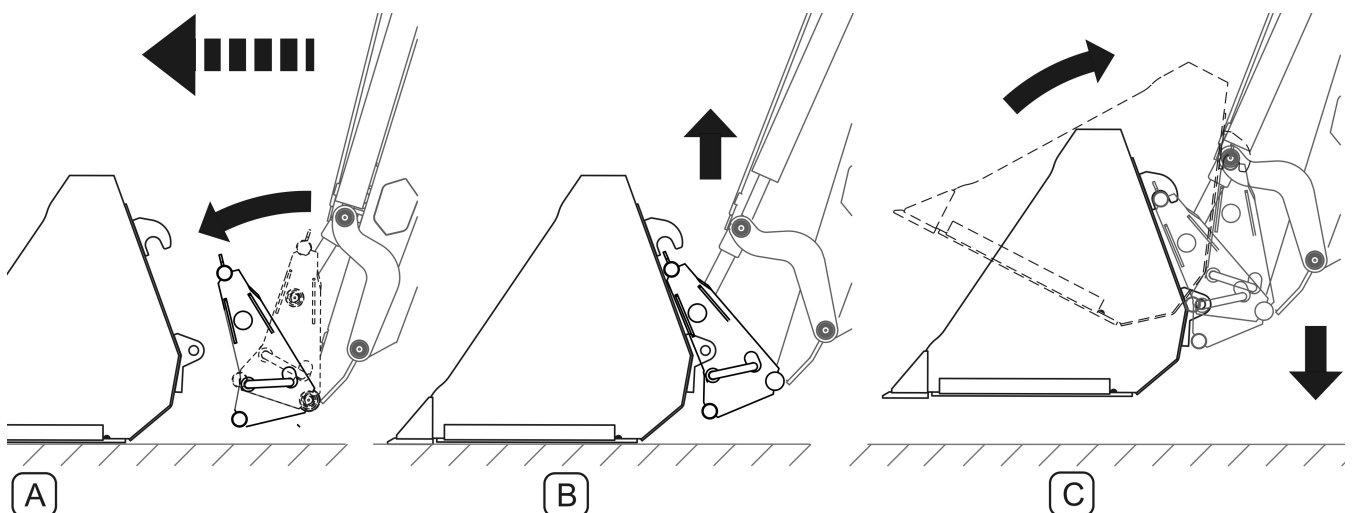

FIGURE 4.23 Mounting working implement
- rotate the frame forward and lower the arm so that mounting points on quick mounting frame are below the mounting points of the implement; (A, FIGURE 4.23)
- raise loader introducing frame points into implement hooks;(B, FIGURE 4.23)
- move the lever in the cab to tilt the frame to the rear and lower the loader arm causing interlocking of quick mounting mechanism; (C, FIGURE 4.23)